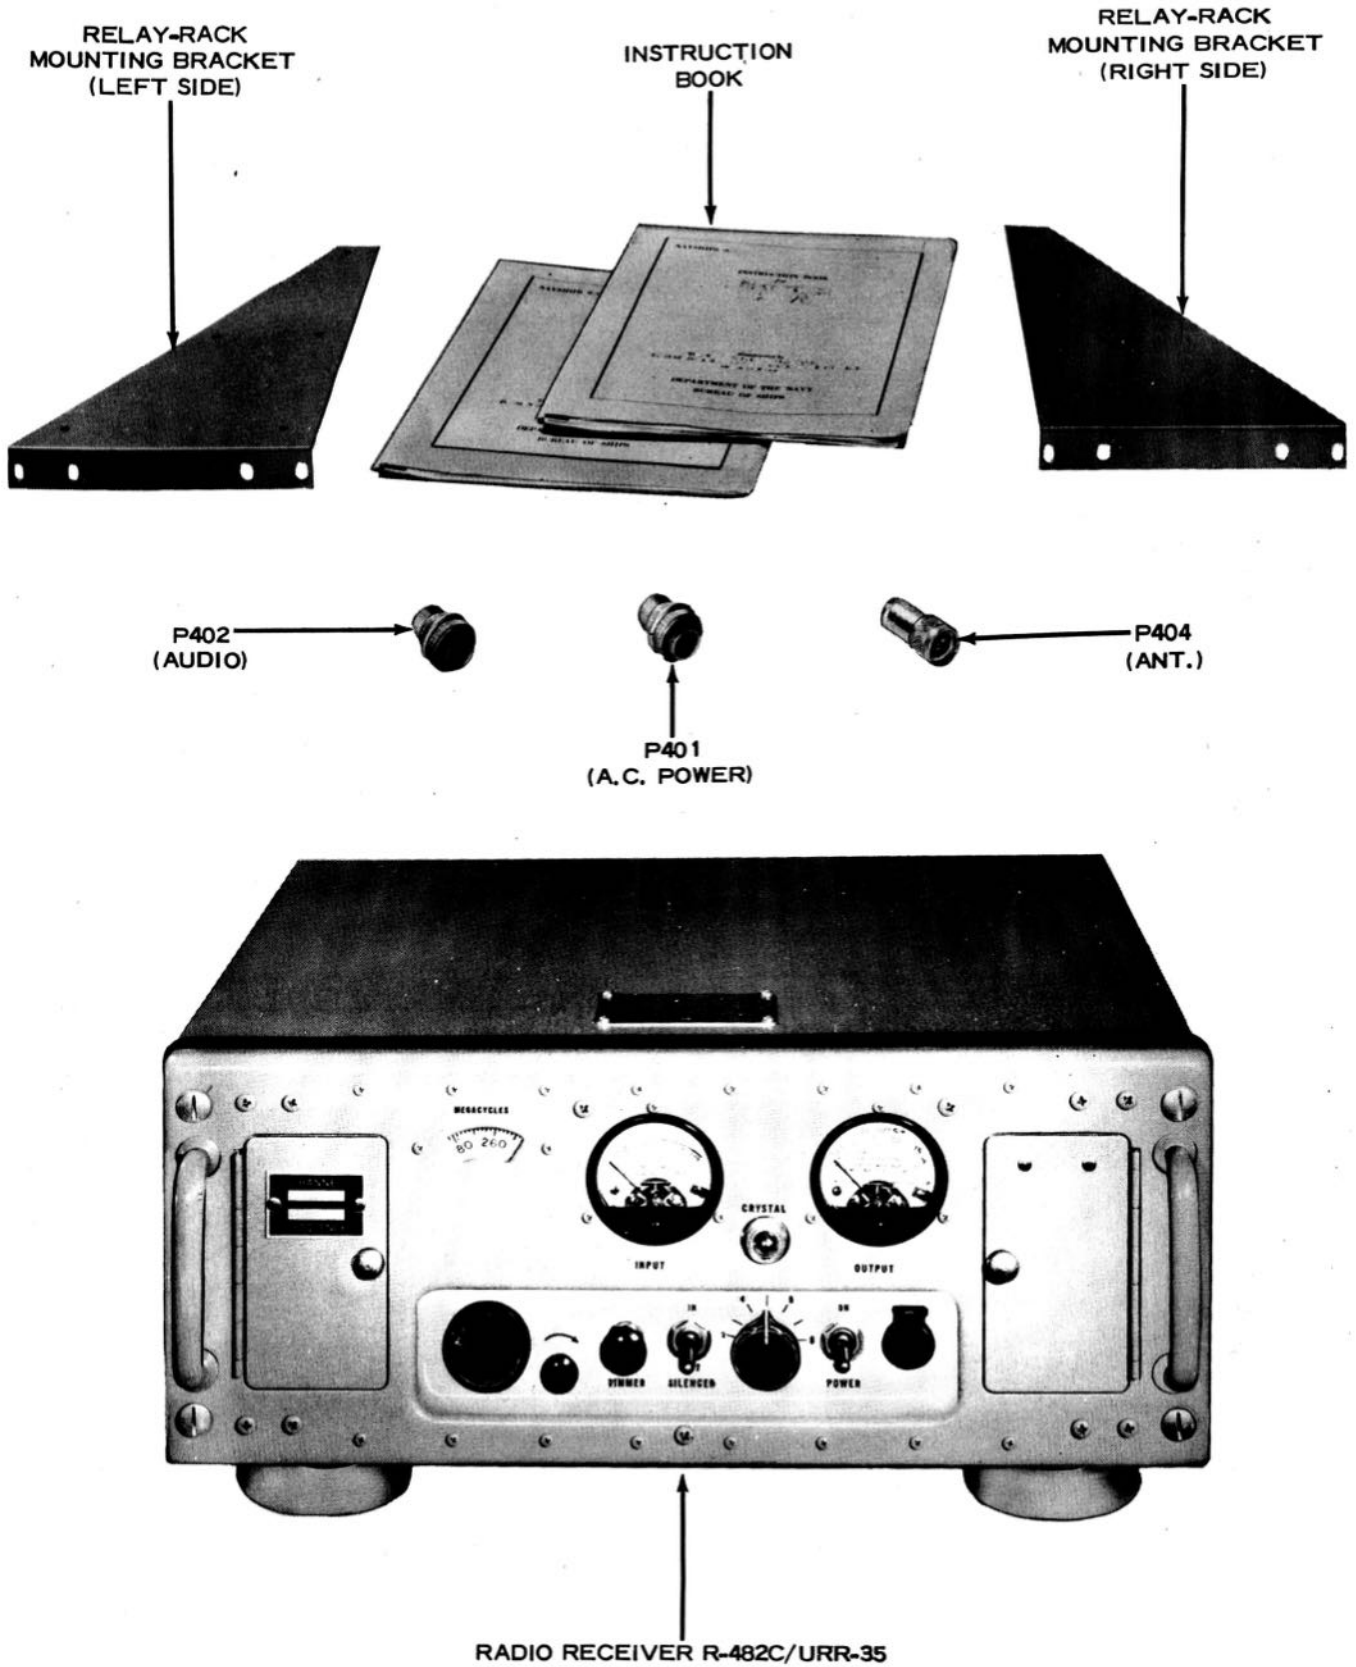

Figure 1-1. Radio Receiving Set AN/URR-35C
c. **EQUIPMENT ARRANGEMENT.**—Radio Receiving Set AN/URR-35C is shown in figure 1-1. It consists of Radio Receiver R-482C/URR-35, a pair of auxiliary angle brackets for relay-rack mounting, three plugs to mate with receptacles on the receiver for external connections, and two copies of the instruction book. The receiver proper consists of a panel, frame and chassis assembly housed in a cabinet fitted with shockmounts. The equipment may be mounted on a bench or other firm horizontal surface, or (after attaching brackets) in a standard 19-inch relay rack.
Connector plugs P401, P402, and P404 (see figure 1-1) are supplied with the equipment for use as required. A-c power is supplied through P401 and J401. The audio output signal is applied to a 600-ohm line through P402 and J402. The input signal from the antenna is brought into the receiver through P404 and J404. In each case, external cables must be fabricated using these connectors, to fit local conditions.